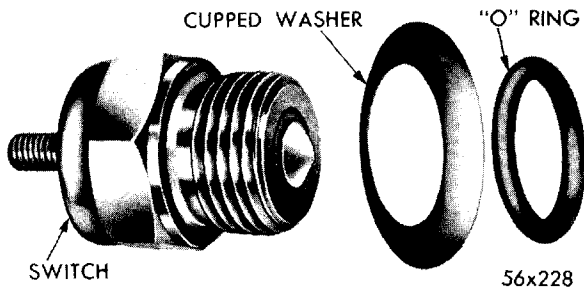

Fig. 10—Neutral Starting Switch (Disassembled)
(1) With proper control cable adjustment assured, depress the N (neutral) push button.
(2) Raise vehicle and drain approximately two quarts of fluid from transmission.
(3) Unscrew neutral starting switch from transmission case and check to see that switch operating lever is aligned in center of switch opening in the case.
(4) Place cupped washer and "O" ring over threads of the switch (Fig. 10), then screw switch into transmission case a few turns.
(5) Connect one lead of a test lamp to battery current and the other lead to the switch terminal. Screw switch into transmission case until the lamp lights, then tighten switch an additional  $\frac{1}{3}$  to  $\frac{1}{2}$  turn.
(6) Remove test lamp and connect wire to the switch.
(7) Add fluid to transmission to bring up to proper level.